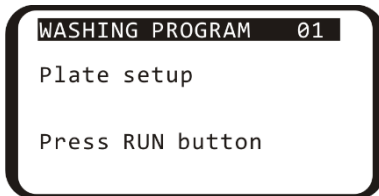
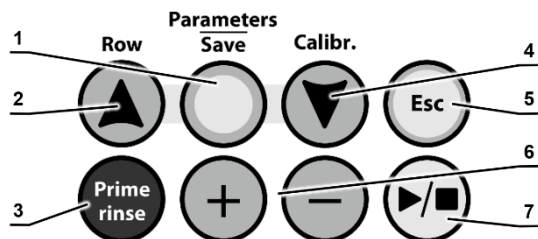

Figure 6. Plate setup
Figure 7. Control panel keys
- Press the **Calibr.** ▼ key (fig. 7/4) in the program choosing mode, then the ►/■ key (fig. 7/7), and the following message appears on the display (figure 6).
- To select the program number from 00 to 100, use the + and – keys (fig. 7/6).
- To edit the program parameters, press the **Parameters / Save** key (fig. 7/1).
- When editing the program parameters, to select next or previous parameter use the **Calibr.** ▼ or **Row** ▲ keys (fig. 7/4 and 7/2).
- When editing the program parameters, to exit the editing mode without saving, press the **Esc** key (fig. 7/5).
5.7.1 By default, the unit washes all rows of the microplate. In order to wash less rows, when in the program selection menu press **Row ▲** (fig. 7/2). Display shows the row count menu (figure 9). Using the **+** and **–** keys, set the necessary number of rows. To cancel and return to the previous menu, press **Esc**. To save and start the program, continue reading.
5.7.2 Press the ►/■ key (fig. 7/7) to start the program. The program can be started from the program selection menu, program parameters editing mode, or row count selection menu. To abort and return to program selection, press **Esc** key.
6.2.3 Press the **Prime rinse** (fig. 7/3), display shows the rinsing menu (figure 13). Select the channel of the attached tube using the + and – keys. Channel number can be found on the rear panel of the unit, under the attached tube (fig. 3/5–3/7)